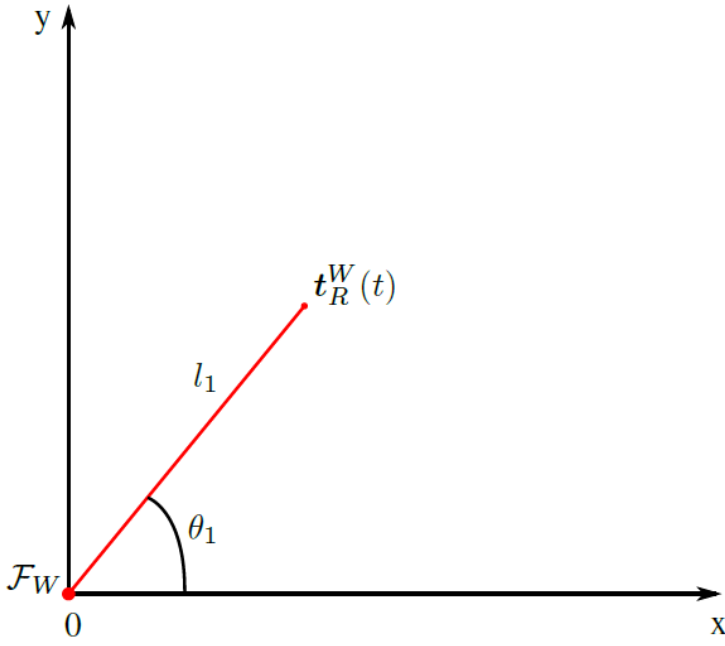

Fig. 1. One degree-of-freedom planar robot.
1. Let the robot R be a 1-DoF planar robot, as drawn in Fig.1.